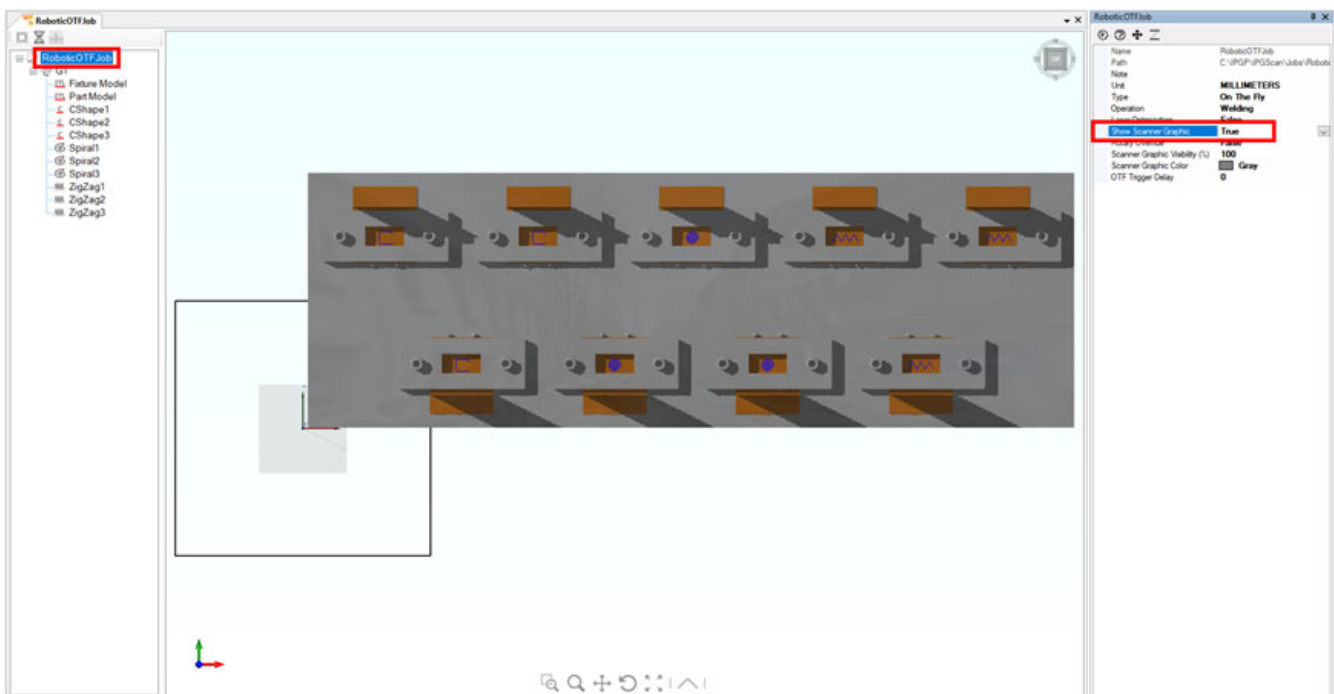

Figure 239: Enabling Show Scanner Graphic
4. In the Parameter Window, set "Show Scanner Graphic" to "True." See Figure 239 (below).